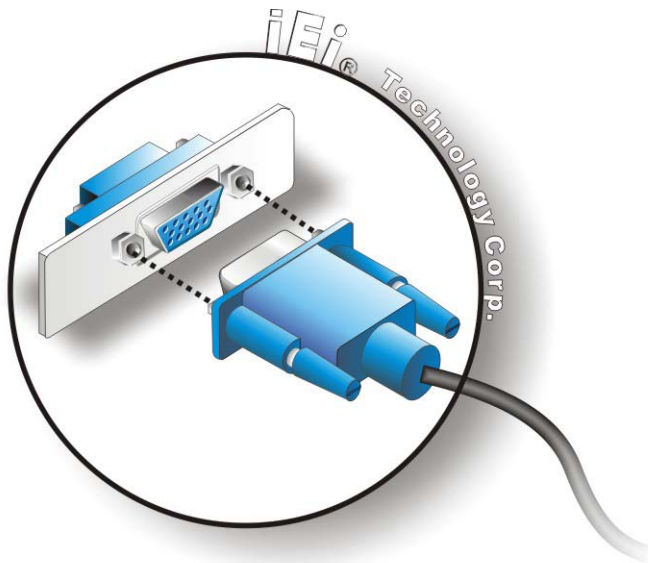

Figure 4-30: VGA Connector
- Step 3: Insert the VGA connector.** Once the connectors are properly aligned with the insert the male connector from the VGA screen into the female connector on the AFL2-W21A/AB-H61. See **Figure 4-30**.